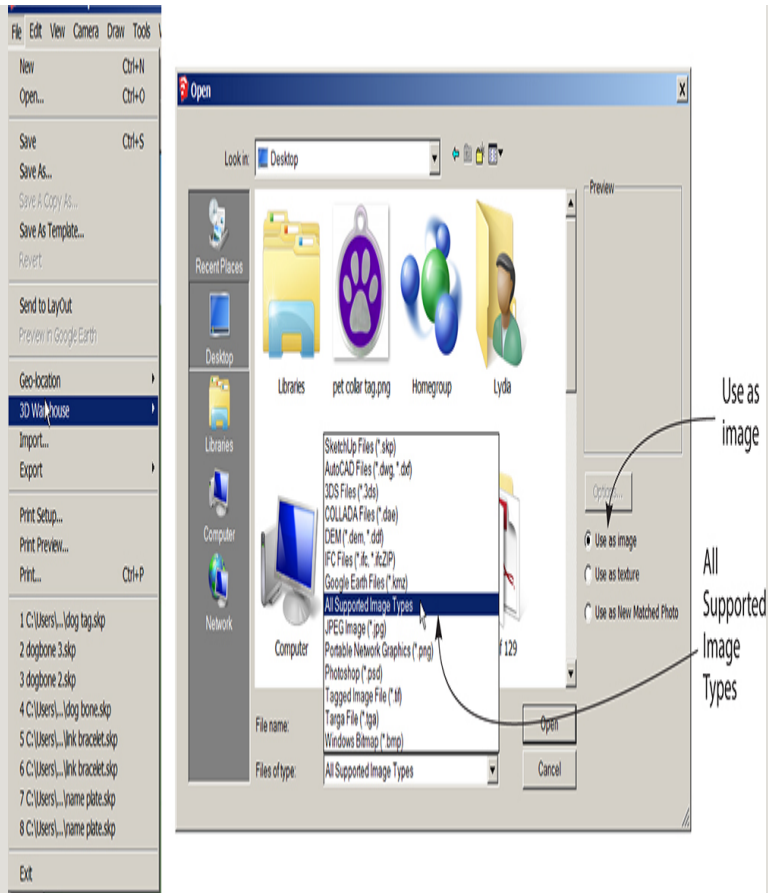
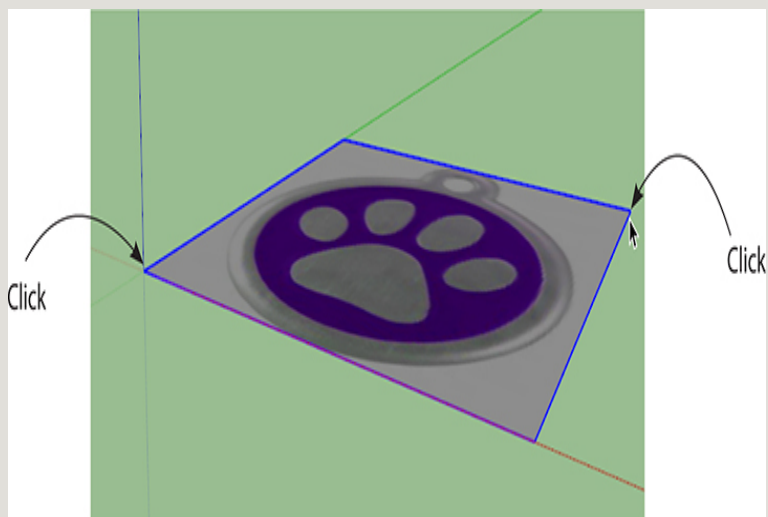

Figure 3-51 Import the picture.
Figure 3-52 Click two corners to size and place the picture.
1. Import the picture (Figure 3-51). Click on File > Import to bring up a navigation window. Click on the Use As Image button, and set the Files of Type field at the bottom to All Supported Image Types. Locate and click on the picture and then click Open. Click to place the first corner, drag the image larger, and click to place the second corner (Figure 3-52). If you accidentally let go of the cursor and the image becomes too small, just undo and reimport it. We'll scale it later.
SketchUp Make/PC imports .jpg, .png, .tif, and .bmp raster files. SketchUp Make/Mac imports the same plus .pdf files. .Gif files are not importable. SketchUp Pro imports the files shown in Figure 3-51. SketchUp resamples (downsizes) files larger than 1,024 x 1,024 pixels. However, that size is much larger than what's usually needed. Because large files slow down the software, crop and resample them yourself before importing.